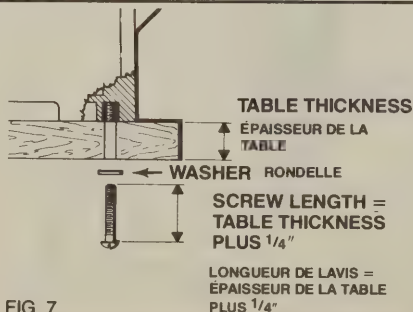

FIG. 7
Secure by using (4) No. 8-32 machine screws (not provided) as shown in Fig. 7. Note screw length formula shown.